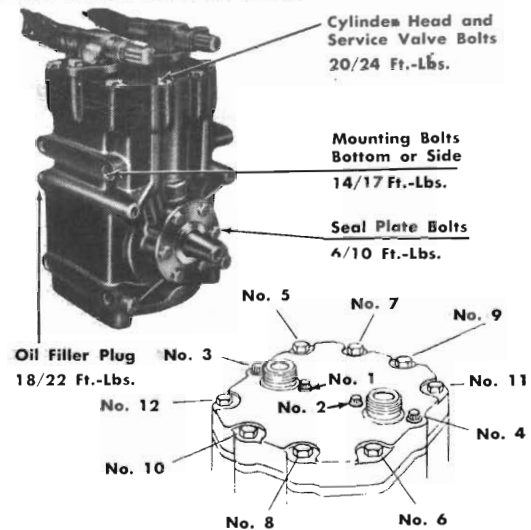

Fig. 38 - Compressor assembly torques and head tightening sequence
(3) Position the new rectangular sectioned "O" ring into seal recess in the bearing housing, ensuring that it is properly seated.
(4) With the compressor supported on the seal plate retaining screws, carefully install the housing (properly aligned with the casing) over the bearing and press the bearing housing into the casing bore to full depth.
(5) Install the snap ring to secure the bearing housing in the casing.
(6) With the compressor inverted, insert the rectangular sectioned "O" ring into base seal recess.
(7) Place the base plate ("domed" side out) into the base counter-bore.
(8) Install the base plate retaining snap ring securely after pushing the base firmly inward to expose the groove.
(9) Recharge the compressor with the correct amount of refrigerant oil, *refer to Fig. 38 diagram* and install filler hole plug.